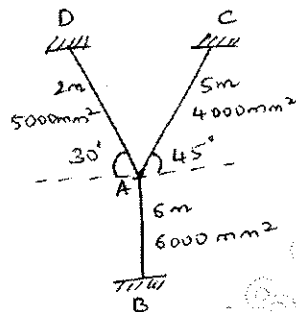

Fig.Q.7
- 7 In the pin jointed truss shown in Fig.Q.7 all the members are cooled upto 20°C . Take $\alpha = 1.2 \times 10^{-5}/^\circ\text{C}$. $E = 2 \times 10^5 \text{ N/mm}^2$ for all the members. Find the displacement and forces in all the members. (16 Marks)